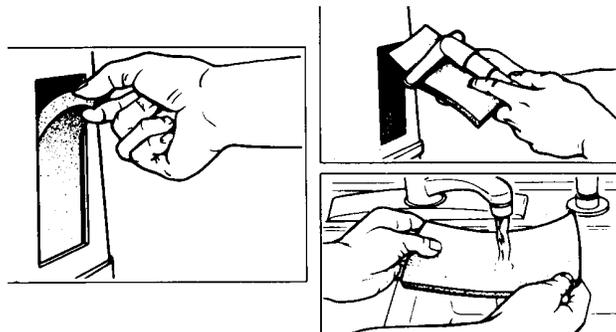

FIGURE 8 - CLEANING THE CABINET FILTERS
1. Remove each filter and **CLEAN AT LEAST ONCE A WEEK** depending on environmental conditions (FIGURE 8).
2. Clean the cabinet filters with a vacuum cleaner or wash in warm soapy water and rinse thoroughly (FIGURE 8).